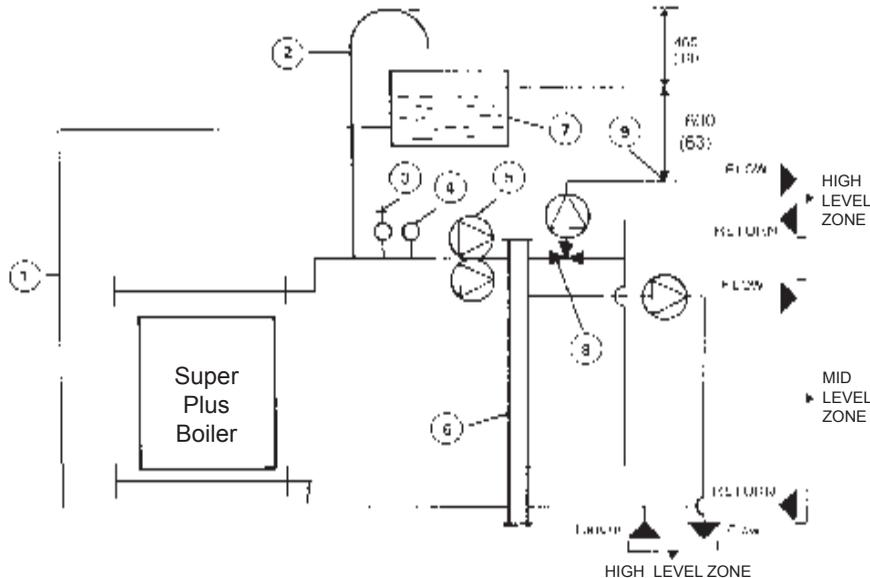

Fig.13 Guide to Minimum Requirements - Feed / expansion tank height & boiler primary circuit
**See Fig.13**
Fig.13 is intended to provide basic information only on the application of the **Super Plus** Boilers.